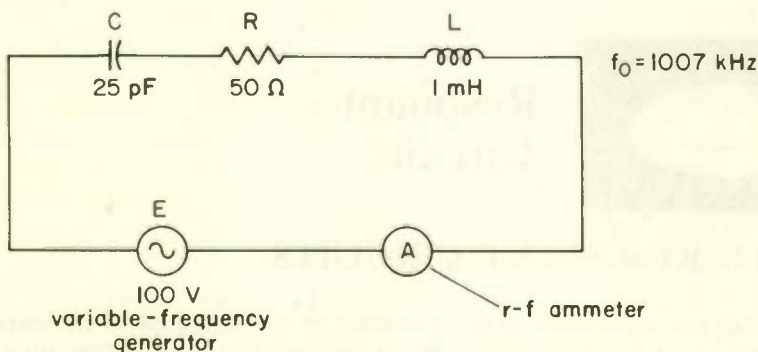
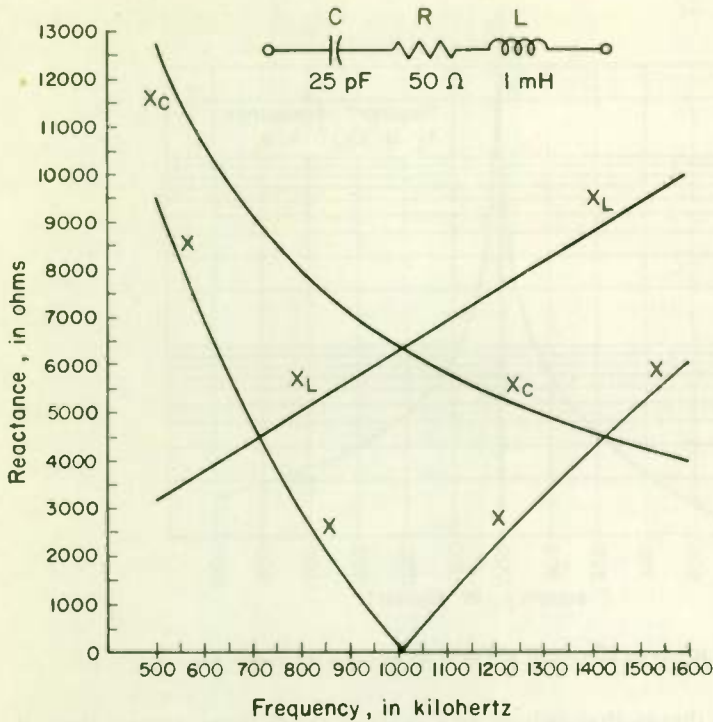
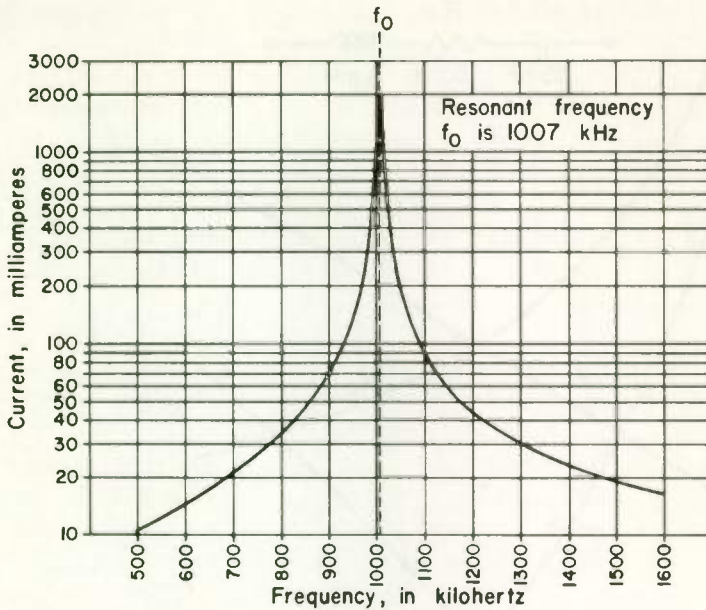

Fig. 1 A series LC circuit across a constant voltage.
Fig. 2 Reactance of the LC circuit of Fig. 1 with variation of frequency.
Fig. 3 Current in series LC circuit of Fig. 1 at various frequencies.
1 SERIES RESONANCE AND WHY IT OCCURS... If you vary the frequency of the 100-V generator E in Fig. 1 and watch the ammeter A , you will find that at a certain frequency the ammeter reads much higher than for either higher or lower frequencies. The frequency at which the current is greatest is called the *resonant* frequency of the series LC circuit, and if this is the generator frequency, the circuit is said to be at *resonance*.
Every circuit consisting of an inductor and a capacitor has a resonant frequency. Resistance is associated with any practical circuit; it is made up of the resistance of the coil winding, the connecting leads, and the capacitor plates. This unavoidable resistance is represented by R in Fig. 1. Thus every practical LC circuit must in fact be an LCR circuit, and the value of R , even though quite low, has an important effect on the characteristics of a resonant circuit. R can never be ignored in a circuit operating at resonance.
The reading of ammeter A in Fig. 1 is, of course, equal to E/Z , where Z is the circuit impedance at the generator frequency. To review your a-c circuit theory, to find Z you must first find X , the total reactance, which is equal to the difference between X_L and X_C . The reactance of L increases with the frequency and is given by the curve X_L in Fig. 2 for frequencies between 500 and 1600 kHz. The reactance of C decreases as the frequency increases and is given by curve X_C in Fig. 2. Before going further you should use the formulas $X_L = 2\pi fL$ and $X_C = \frac{1}{2\pi fC}$ to calculate X_L and
X_C at two or three frequencies to see that the calculated results agree with the curves of Fig. 2.
The total circuit reactance is given by curve X in Fig. 2. This curve has been drawn by taking the difference between X_C and X_L at each frequency. For example, at 800 kHz X_L is 5030 Ω and X_C is 7960 Ω . Therefore X at this frequency is 7960 - 5030 = 2930 Ω , as shown by the curve X on the graph.
As shown in Fig. 2, at a frequency of 1007 kHz, X_L and X_C are equal in value and therefore X is zero. Therefore, 1007 kHz is the resonant frequency. At this frequency the only opposition to current flow in the circuit of Fig. 1 is the 50 Ω of R . Ammeter A therefore reads its highest, which is $I = \frac{100 V}{50 \Omega} = 2 A$, or 2000 mA. This current value at resonance is shown in Fig. 3.
from your a-c theory that as long as X is 10 or more times greater than R , Z is equal to X for all practical purposes. So in Fig. 1, Z can be considered as equal to X for all values of X greater than 500 Ω . Therefore, in Fig. 2, Z can be considered as equal to X for all frequencies below 968 kHz and for all frequencies above 1048 kHz. Then in Fig. 3, you can check the current values as given by the curve for frequencies below 968 kHz and above 1048 kHz by using the approximate formula $I = \frac{E}{X}$, and you should do this for two or three different frequencies. For values between 968 and 1048 kHz, both R and X need to be considered for finding Z and thus the current. However, since the current at resonance is known, you have enough points without checking to draw the approximate current response curve shown in Fig. 3.
At this time let's consider how R affects the rise in current at resonance (called the sharpness of resonance). If R in Fig. 1 were only 25 Ω , the current at resonance would be 4000 mA. In Fig. 3, the current would shoot up to a peak at resonance that would be twice as high as the one shown. But the current for frequencies below 968 and above 1048 kHz would not change, since X has not changed. This gives the resonant curve steeper sides; that is, the resonant curve is sharper. Since a lower value of R means a higher Q , the higher the Q the sharper the resonant response.
1. Refer to Fig. 2. The value of X_L read from the graph at 600 kHz is (a) _____ ohms. At 850 kHz the value of X_L is (b) _____ ohms, and at 1450 kHz the value of X_L is (c) _____ ohms. The curve of X_L (d) *(is)* *(is not)* linear.
2. Refer to Fig. 2. The value of X_C read from the graph at 600 kHz is (a) _____ ohms. At 850 kHz the value of X_C is (b) _____ ohms, and at 1450 kHz the value of X_C is (c) _____ ohms.
3. Refer to Fig. 2. What are the values of X read from the graph at (a) 600 kHz, (b) 850 kHz, and (c) 1450 kHz?
8. At the resonant frequency shown in Fig. 3 the voltage E_C across C is (a) _____ volts and the voltage E_L across L is (b) _____ volts. This shows that in a series circuit at the resonant frequency, E_L and E_C are (c) *(equal to)* *(much greater than)* *(less than)* the applied voltage.
9. If R in Fig. 3 is doubled, the resonant frequency will (a) *(double)* *(remain the same)* *(halve)*. The impedance at resonance will (b) *(double)* *(remain the same)* *(halve)*, and the current through the circuit will (c) _____.
11. Refer to Fig. 1. Find the value of E_C , E_L , and E_R at (a) 600 kHz, (b) 850 kHz, and (c) 1450 kHz.
16. The current in any LC circuit (a) (lags) (leads) the voltage E_L by (b) (45) (90) (135) degrees, but the circuit current (c) (lags) (leads) the voltage E_C by (d) _____ degrees.
7. (a) Equal to (b) Zero... See Fig. 2. $X = 0$ when $X_L = X_C$, and this occurs at the resonant frequency.